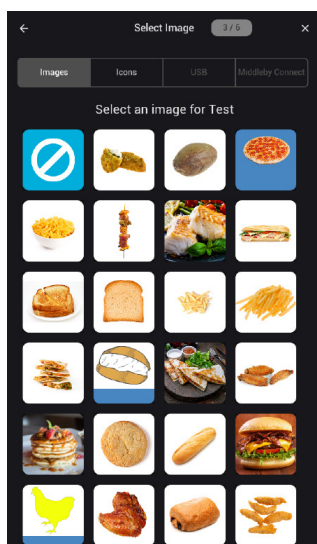

Figure 25: Select Image for New Recipe
7. Select an image and touch the blue “Next” button (Figure 25, below).